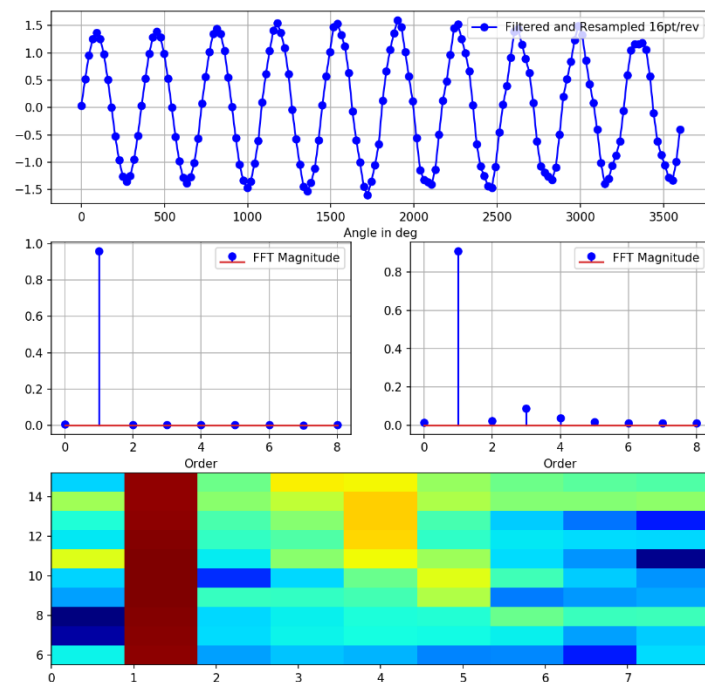

Figure 7-4: Determination of the order spectrum
- The difference to the output spectrum to the usual frequency spectrum is hereby that the frequency is no longer plotted along the x-axis but the order itself (see Figure 7-4). Thus, the order spectrum can be directly extracted from this spectrum.